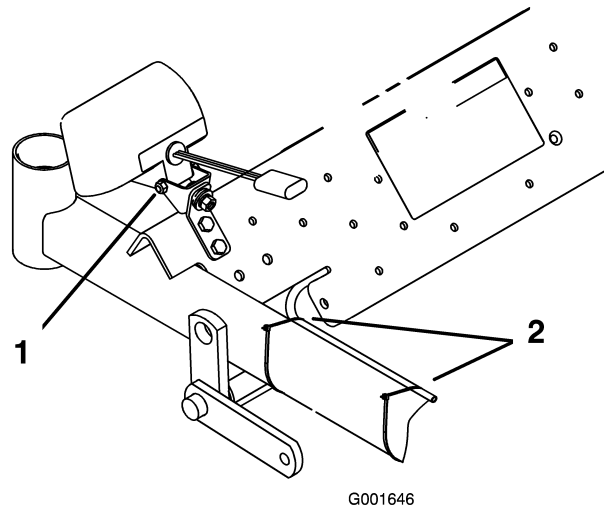

Figure 14
- Secure the light kit wire harness to the frame with 2 cable ties, one near the left front light and the other toward the control panel (Figure 14).
- Set each lamp to the desired position and tighten the nut on the lamp bracket (Figure 14).